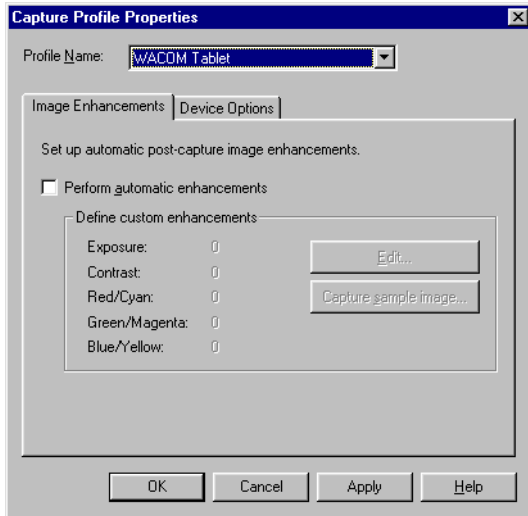

Figure 28: Capture Profile Properties
- To set the digital tablet's operating parameters, click the **Properties...** button. The Capture Profile Properties window appears, displaying the Image Enhancements tab (see Figure 28).